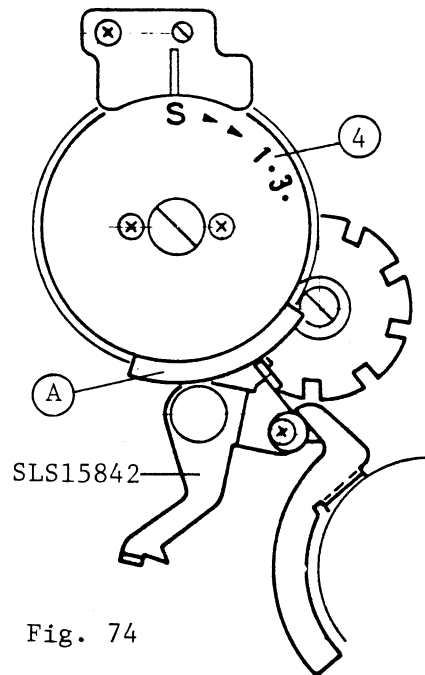

Fig. 74
- 1) When (4) Film counter rotates, operation of SLS15842 Stop lever is controlled by protrusion (A) of SLS15521 Film counter disk as shown in Fig. 74.